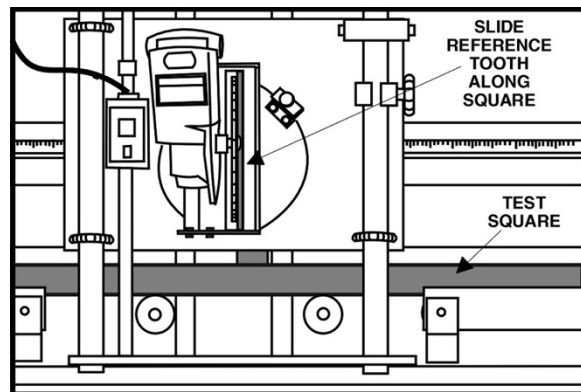

Figure 16
3. Pull the carriage down until the reference tooth of the blade just touches the vertical edge of the test square, Figure 16. Continue pulling the carriage down; if the blade does not contact the square, or the blade binds on the square, the guides are not aligned properly.